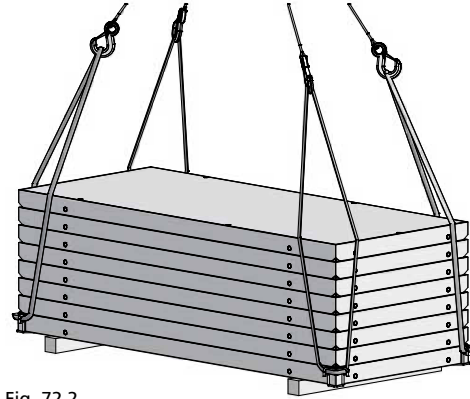

Fig. 72.2
1. Place the panel stack on square timbers of 10 cm (Fig. 72.2).